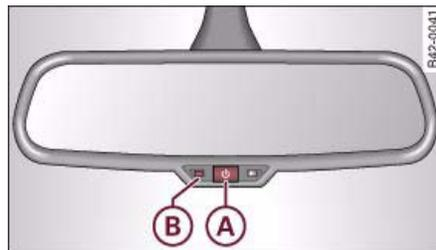

Fig. 58 Anti-dazzle interior mirror: Indicator lamp and on/off switch
- Press button (A) ⇒ fig. 58 - the indicator lamp (B) will go out.
- Press button (A) ⇒ fig. 58 - the indicator lamp (B) will light up.